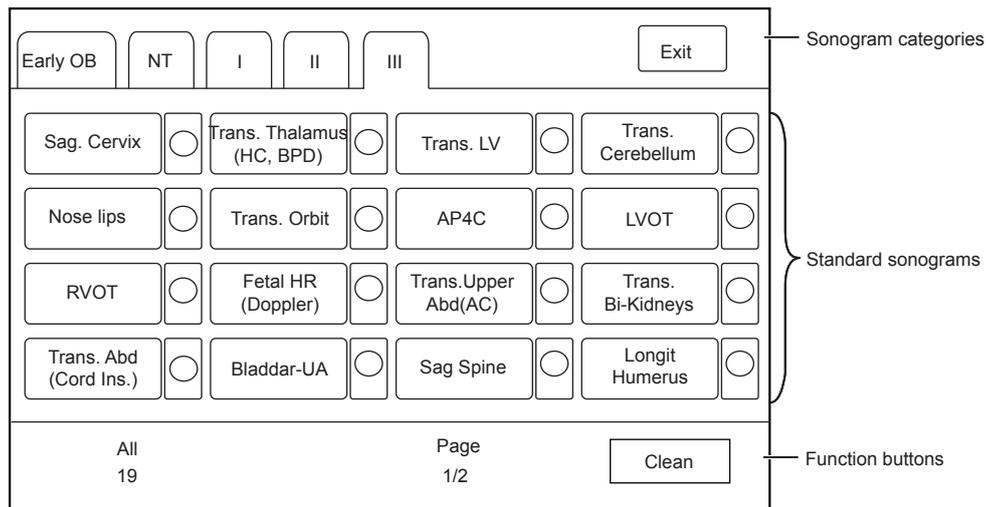

Figure 12-1 Sonogram Navigation Menu
1. In a real time scan, press the **P3** key on the key panel to enter the sonogram navigation menu, as shown in Figure 12-1.